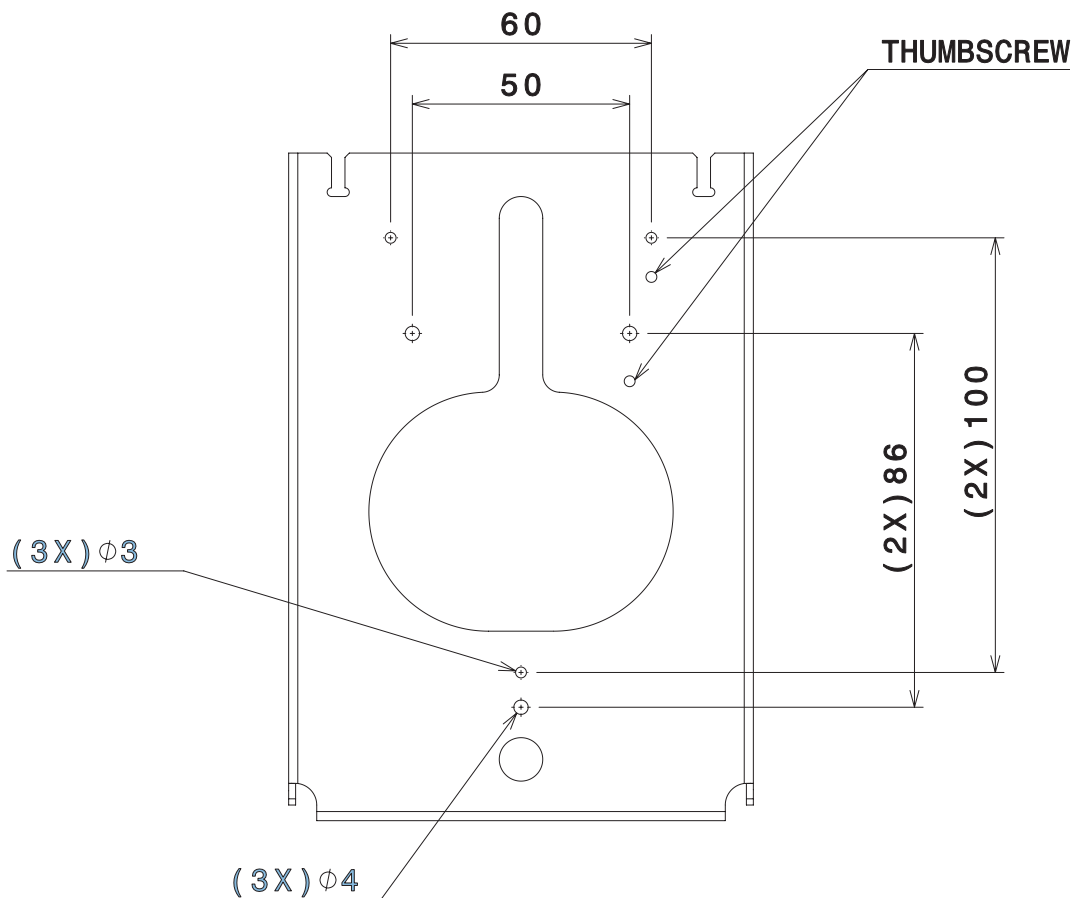

Figure 51. Payment terminal mount
3. Tighten the thumbscrew to secure the unit in place. See Figure 51 on page 82.